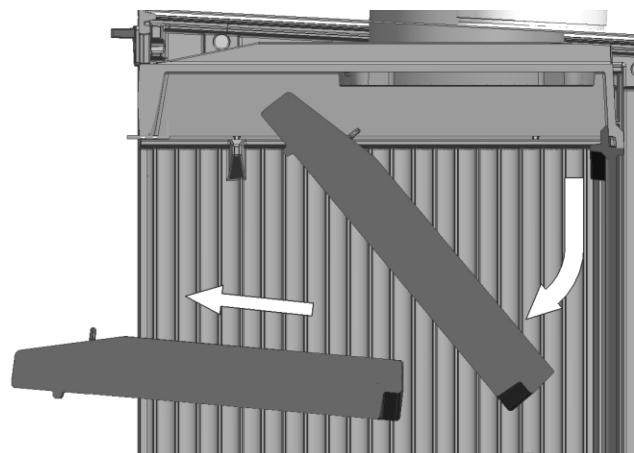

Fig. 2
- B - Lower the deflector until it is free (Fig.2).